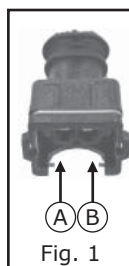

Fig. 1
**Cod. SA143:** va utilizzato se il positivo degli iniettori benzina è sul PIN A e il negativo sul PIN B, fare riferimento alla fig. 1.
**Cod. SA143INV:** va utilizzato se il positivo degli iniettori benzina è sul PIN B e il negativo sul PIN A, fare riferimento alla fig. 1.
If the tester reads connection types 1,2, or 3, proceed by following the diagram in figure 1.
**SA144:** use this if the positive of the petrol injectors is on PIN A and the negative is on PIN B. Refer to figure 1.
**SA144INV:** use this if the positive of the petrol injectors is on PIN B and the negative is on PIN A. Refer to figure 1.
**SA143:** use this if the positive of the petrol injectors is on PIN A and the negative is on PIN B. Refer to figure 1.
**SA143INV:** use this if the positive of the petrol injectors is on PIN B and the negative is on PIN A. Refer to figure 1.